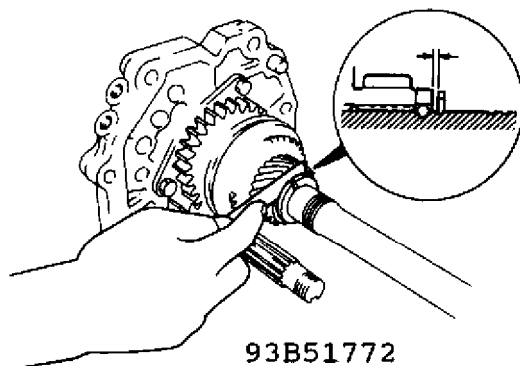

Fig. 3: Measuring Clearance Between Thrust Washer & "C" Washer (M-Types)
4. While pushing the "C" washers forward, measure the clearance between the thrust washer and "C" washers. (See Fig. 3).